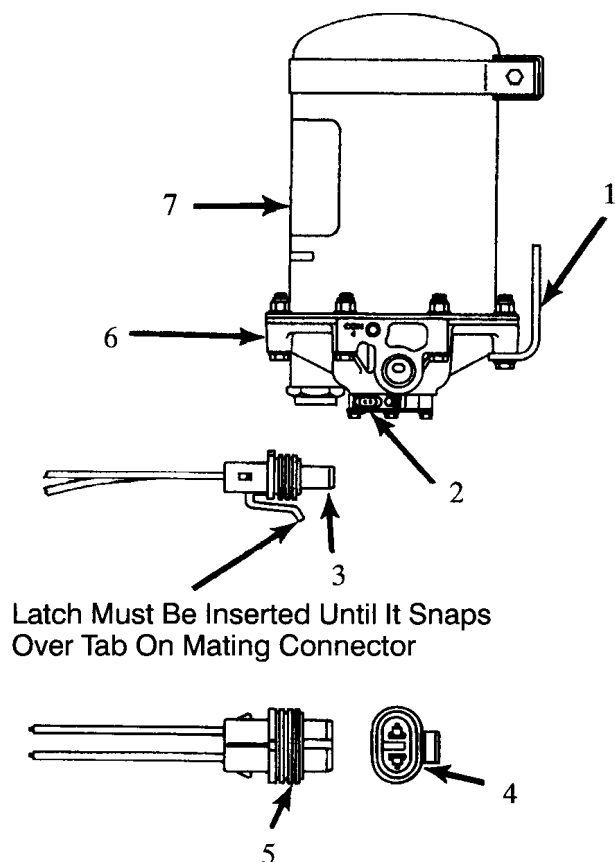

Figure 68 AD-9 Air Dryer - Thermostat and Heater Assembly
4. Unplug the vehicle wiring harness from the heater and thermostat assembly connector (Figure 68) on the purge valve housing assembly.